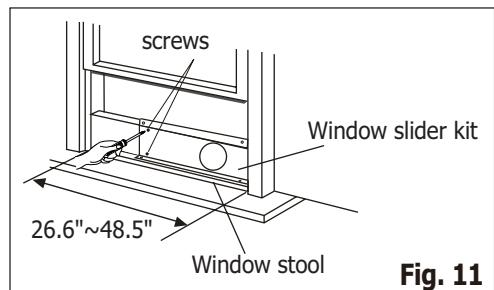

Fig. 11
2. Open the window sash and place the window slider kit on the window stool (Fig. 11). Attach the window slider kit to the window stool. Adjust the length of the window slider kit according to the width of window. Screw down the two screws on the window slider kit. See Fig.11. Cut the adjustable window slider kit if the width of window is less than 26.6 inches (Fig. 12).